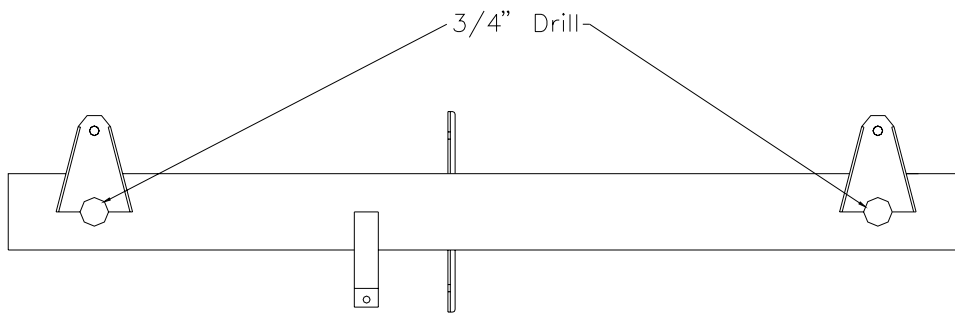

Figure 20.3.3
4) Drill or grind out two 3/4" holes through the control column (CC-35). Figure 20.3.3.